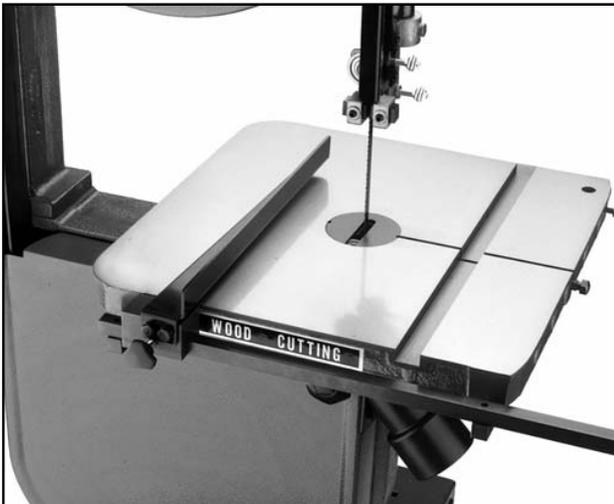

Figure 22. Fence in position.
4. Slip the fence onto the fence rail. To lock the fence in position, tighten the fence knob. See Figure 22.